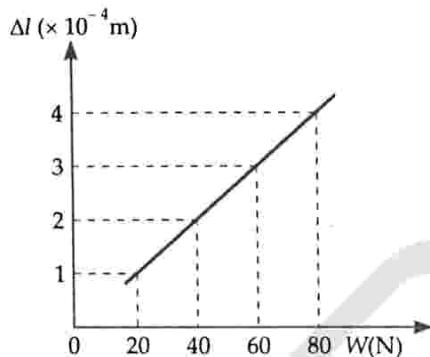

Fig. 9.28
**Problem 4.** The graph (Fig. 9.28) shows the extension ( $\Delta l$ ) of a wire of length 1 m suspended from the top of a roof at one end with a load  $W$  connected to the other end. If the cross-sectional area of the wire is  $10^{-6} \text{ m}^2$ , calculate the Young's modulus of the material of the wire. [IIT Screening 03]